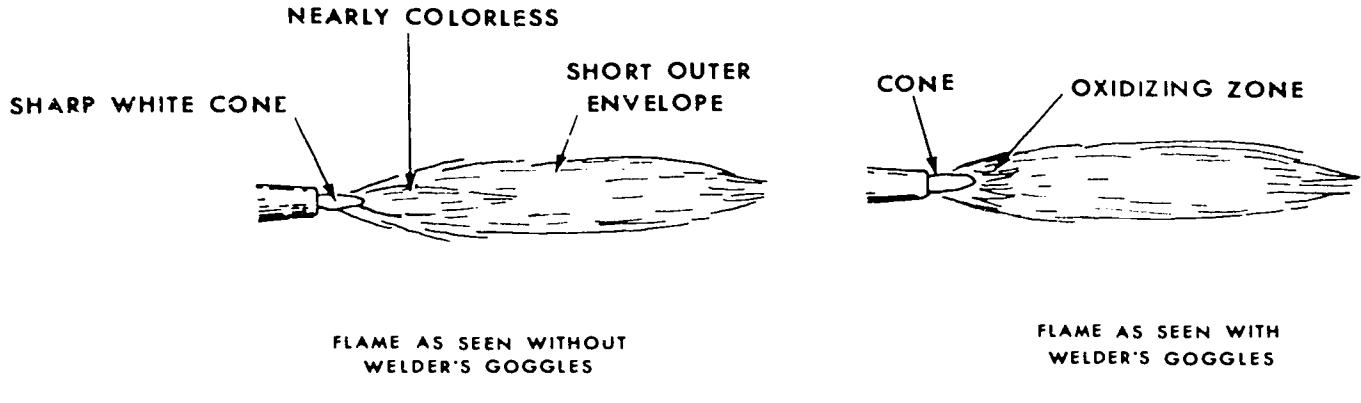

Figure 1-15. Oxidizing flame.
**Oxidizing Flame.** The oxidizing flame, figure 1-15, is produced by slightly more than 1 volume of oxygen mixed with 1 volume of acetylene. To obtain this type of flame, adjust the torch first to give a neutral flame. Increase the flow of oxygen by opening the oxygen torch valve. This flame can be recognized by the short, pointed central cone, a white or colorless middle cone, and a somewhat shorter outer flame envelope. There is a distinct hissing sound. This flame has a temperature of approximately 6300° F.